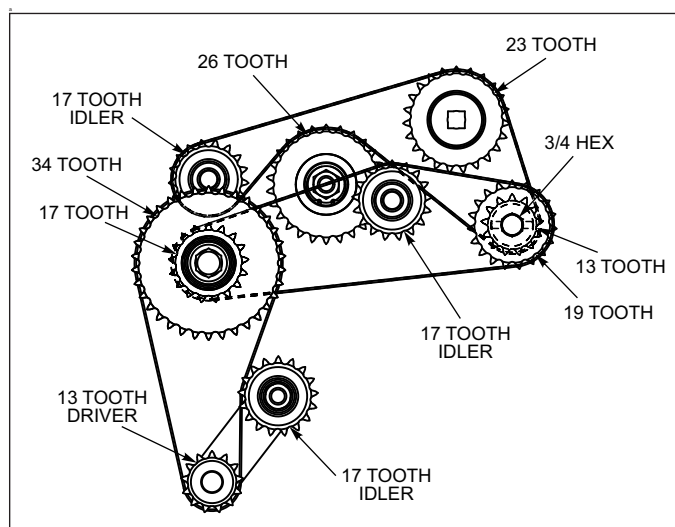

Figure 3-5: Chain Calibration
1. Remove the chain between 17 Tooth and 19 Tooth Sprockets. **See Figure 3-5.**